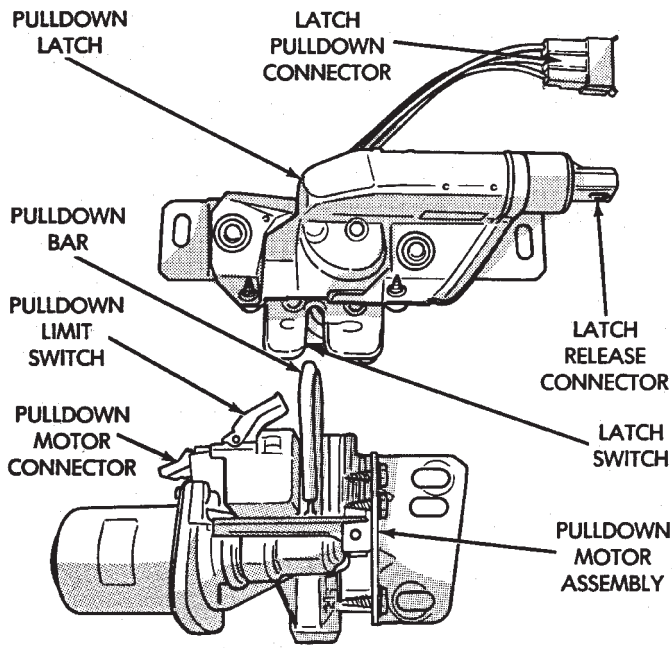

Fig. 10 Deck Lid Power Pull Down Assembly – AC and AY Bodies
(1) Latch testing:
(a) With the deck lid open and the latch switch released. There should be continuity between the black with the red tracer (BK/RD*) and the black (BK) wire (Fig. 10).